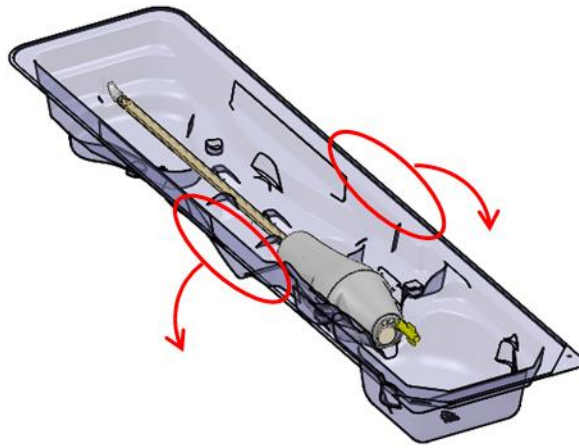

Figure 22: Releasing the UA from the packaging tray
3. **MRI Technologist:** While holding the UA packaging tray by the long edges of its perimeter, flex the tray to release the UA from its snap features (*Figure 22*).